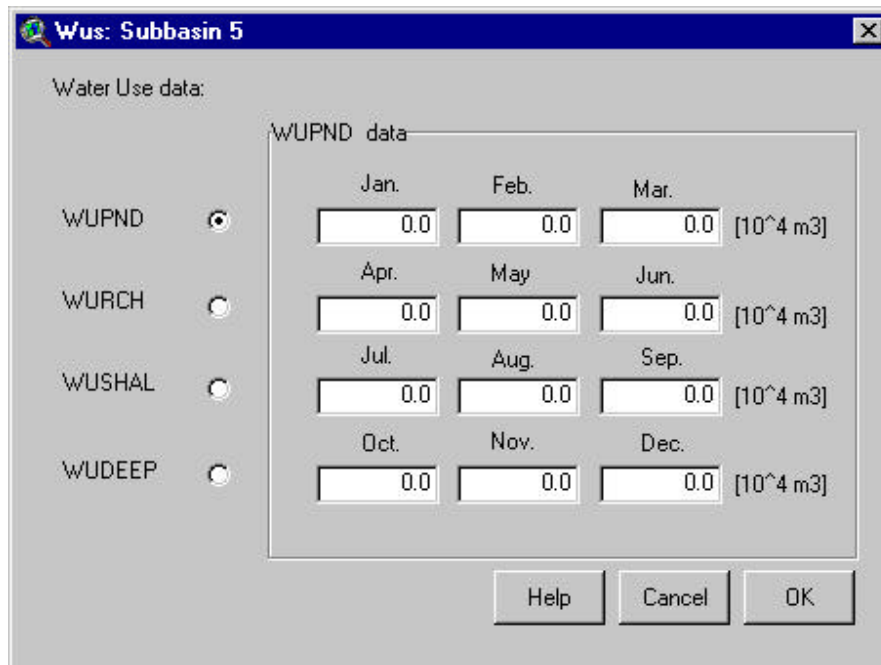

Figure 12.38
1. Click **.Wus** in the **Select Input File** list of the Edit Subbasin Inputs dialog box. Consumptive water use parameters are displayed in a new dialog box titled *Wus: Subbasin #* (Figure 12.38). A complete description of the variables is provided in the *Soil and Water Assessment Tool User's Manual, Version 2000*, Chapter 21.